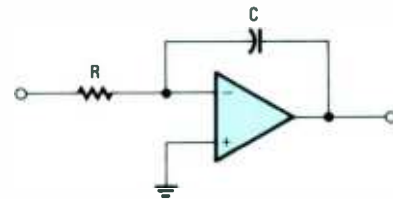

Fig. 10—An op-amp voltage integrator. It will integrate input-voltage waveforms.
25. (R, C) Another widely used op-amp circuit is the integrator shown in Fig. 10, which performs mathematical integration. The inverter configuration is used with an input resistor (R) and a feedback capacitor (C). The output is the inverted integral of the input. For example, if the input is a sine wave, the output is a cosine wave, as shown in Figure 11A. The integral of sine is  $-\cosine$ , but the op-amp inverts this to  $+\cosine$ . If the input is a cosine wave, the output is an inverted sine wave, as shown in Fig. 11B. The integral of